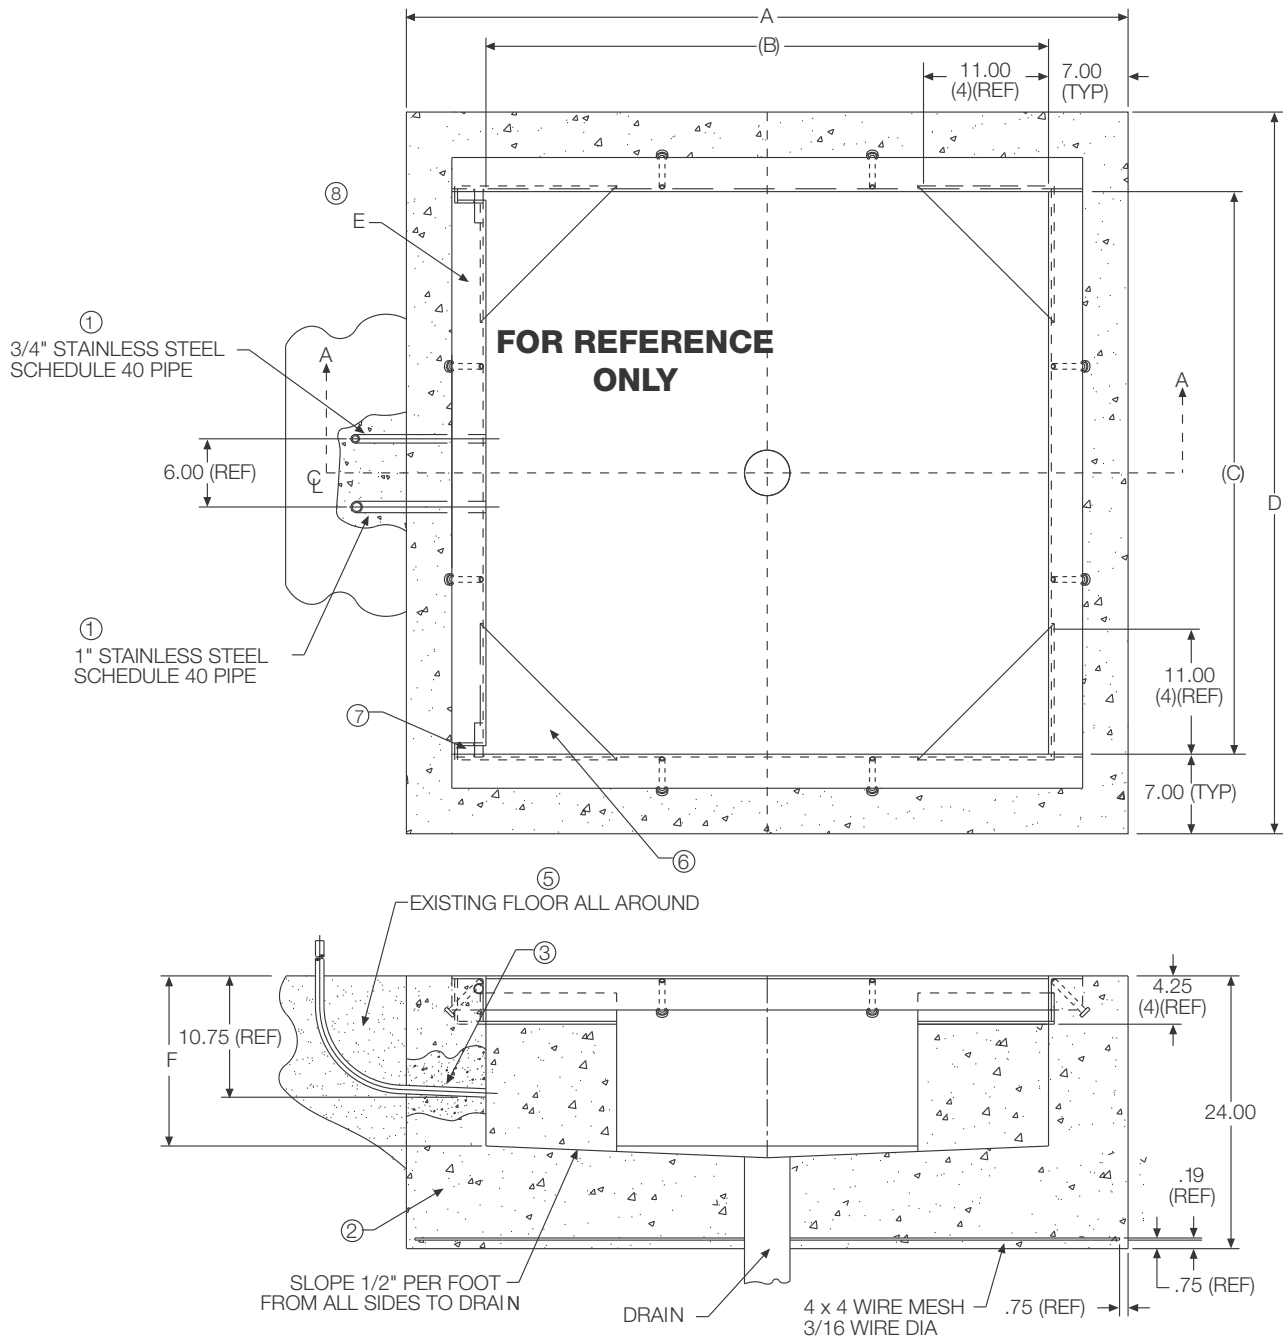

Figure 3-4. Example Pit Installation Drawing
See Figure 3-4 on page 5 for an example of a typical pit installation.
- The following reference numbers apply to Figure 3-4 on page 5.
Figure 3-4 is for reference only. This drawing is included as an example of a typical pit. Do not use this drawing for construction purposes.